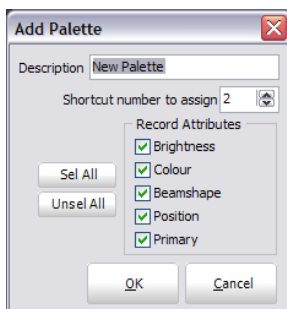

Figure 68: Record Palette
3. The dialog in Figure 68 will prompt you to enter the palette name and shortcut number you would like to assign to the current state. You can also select what attributes you want to include in the palette using the check boxes provided.